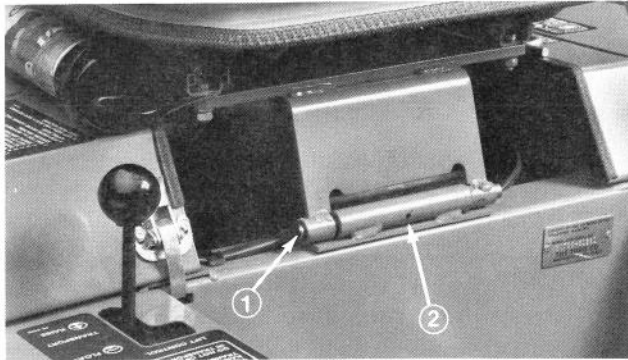

Figure 8
- Mount seat and seat support to unit with pivot shaft and roll pin (Fig. 8).